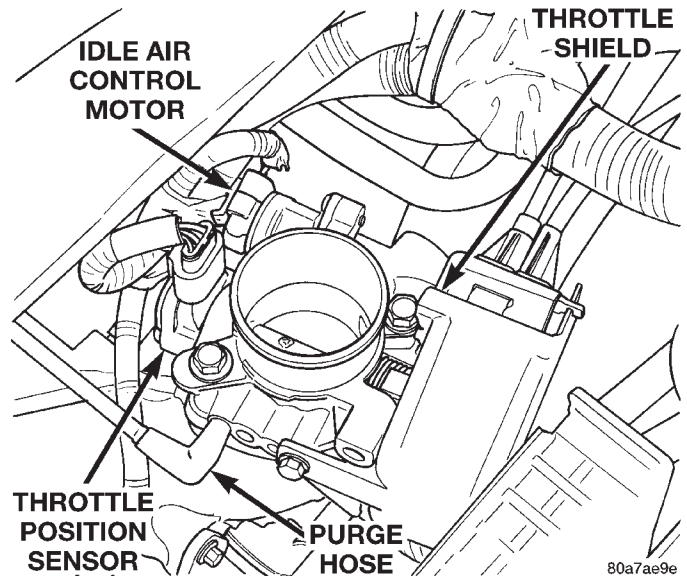

Fig. 63 Throttle Body—2.4L
- (1) Remove air inlet resonator as described in this section.
- (2) Remove throttle shield (Fig. 63).